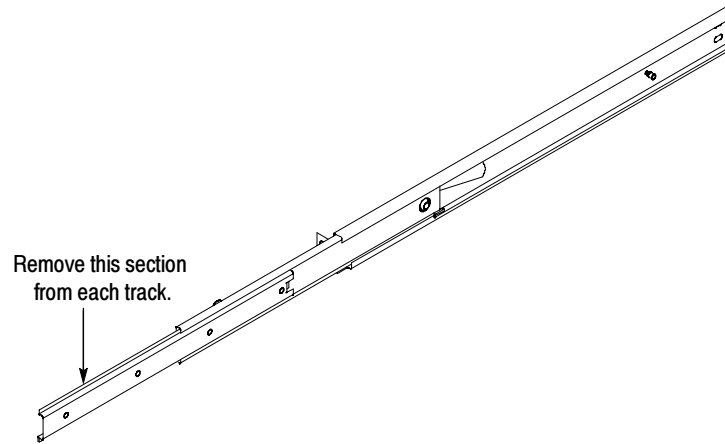

Figure 7: Prepare tracks for mounting
5. Remove the front section of each of the two tracks. See Figure 7.